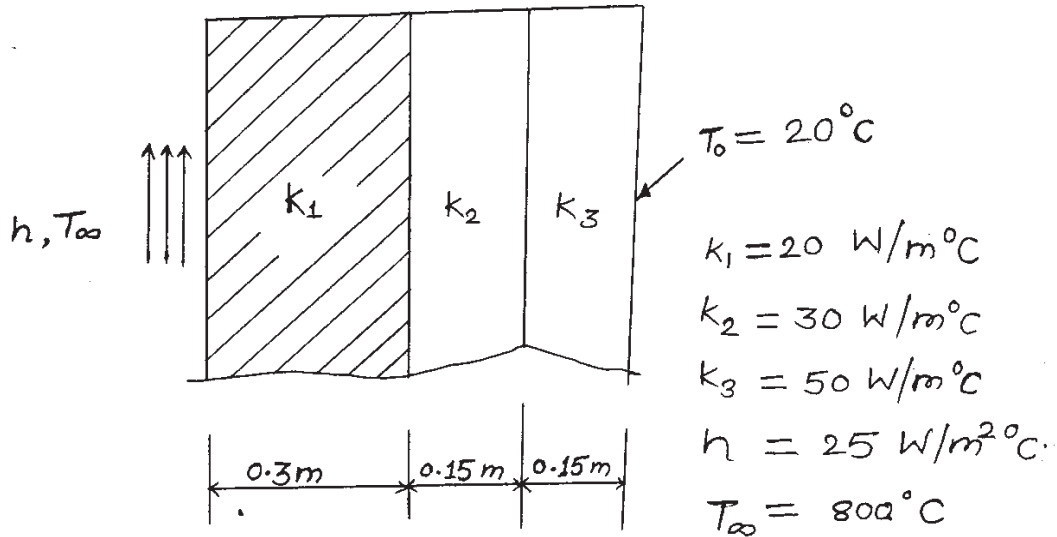

Figure 5.1
- b) A composite wall consists of three materials as shown in figure 5.1. The outer temperature in $T_0=20^\circ\text{C}$. Convection heat transfer takes place on the inner surface of the wall with $T_\infty=800^\circ\text{C}$ and $h=25\text{ W/m}^2\cdot^\circ\text{C}$. Determine the temperature distribution in the wall. [8]